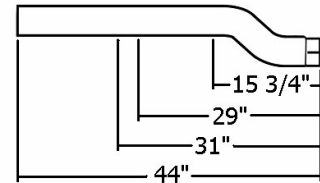

Figure 3
2. Install the **Muffler** over the **Extension Pipe**. The **Hanger Clamp** is used at the connection between the **Muffler** and the **Extension Pipe** and installed into the OEM rubber hanger at this position. Install the "T" **Hanger Clamp** into the two OEM rubber hangers located above the outlet of the **Muffler**. **See Figure 3.**